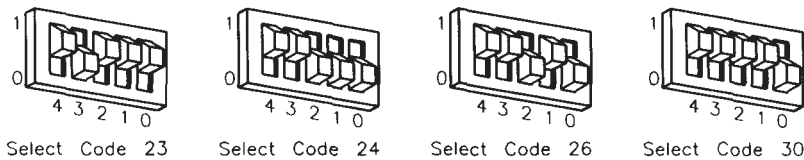

Figure 5-7.
- b. Set these switches to one of the four select codes given in Figure 5-7, unless you have used them elsewhere. Refer to the installation note that came with the interface if you need additional switch settings.